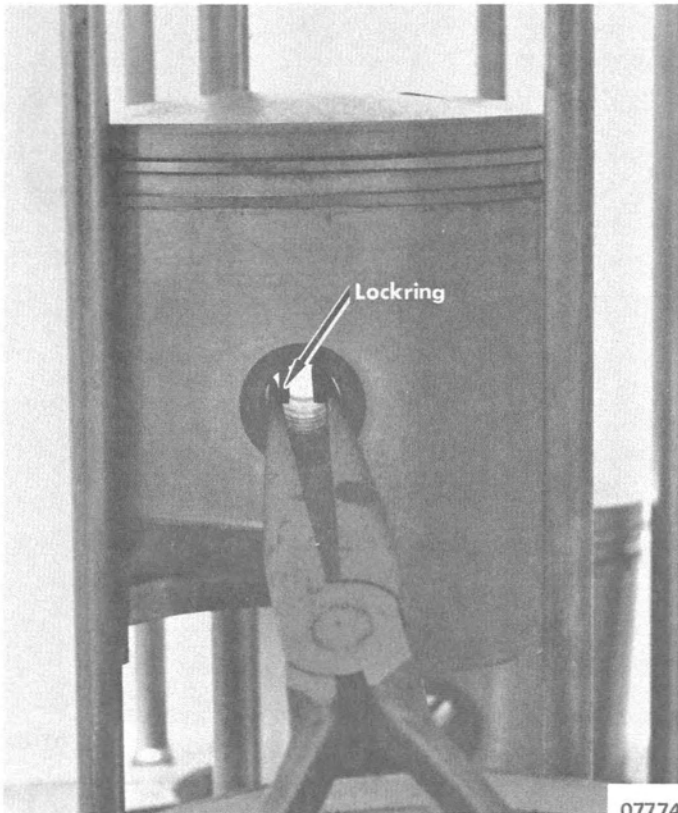

Figure 4. Piston Lockrings
5. Remove piston pin lockrings from piston. (Figure 4)